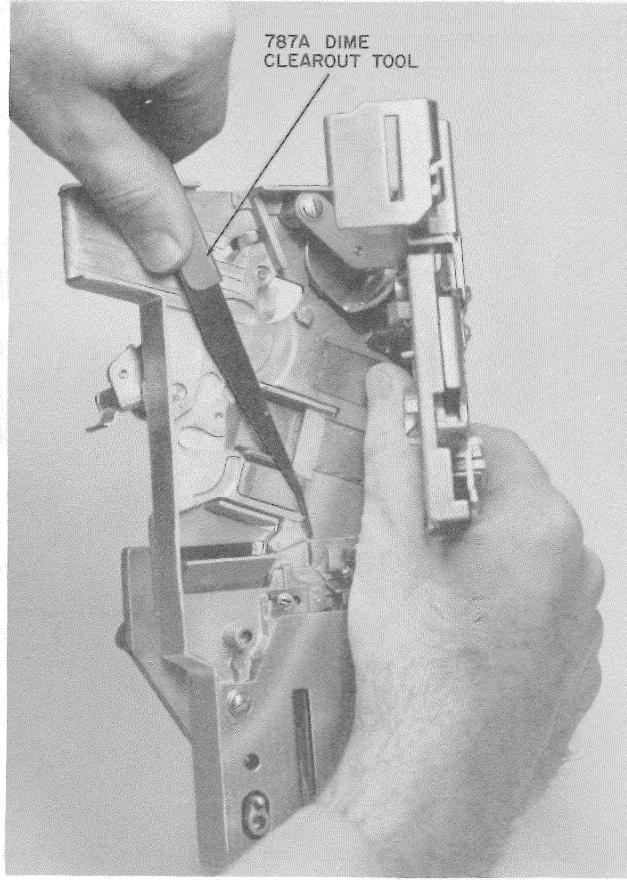

Fig. 43—Using a 787A Dime Clearout Tool in Chute
4.02 If trouble cannot be cleared using an orange stick, use a 787A tool (Fig. 43) as follows:
- (b) Swing upper plate assembly open per Fig. 43.